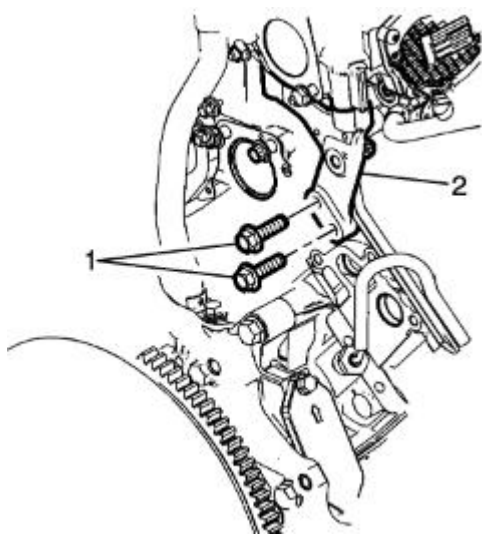

Fig. 120: EGR bracket mounting
- a. Install the rear EGR bracket bolts as shown in figure 120 and torque them to 18 ft-lb.